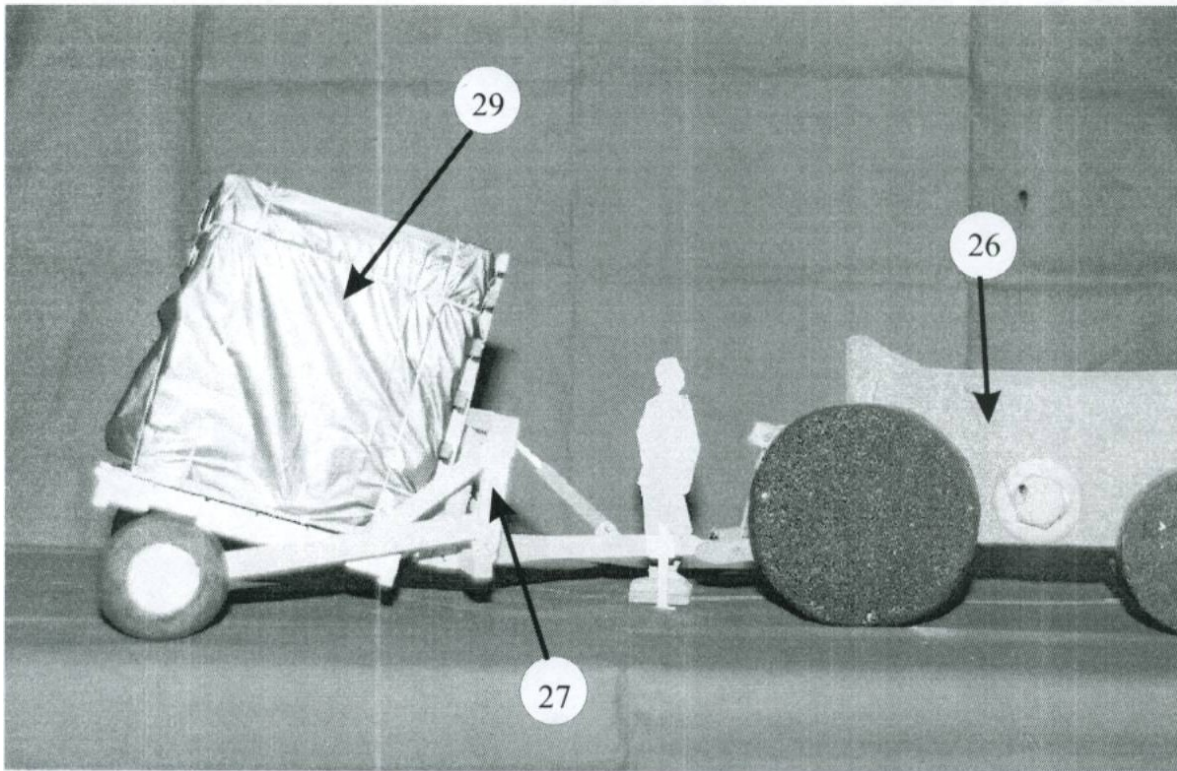

Fig. 6
- Fig. 6 Hay lifter, tarpred hay pallet, and tractor in combination